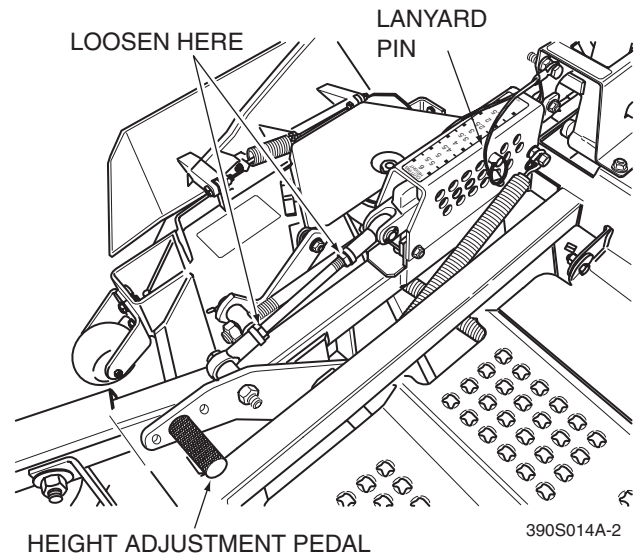
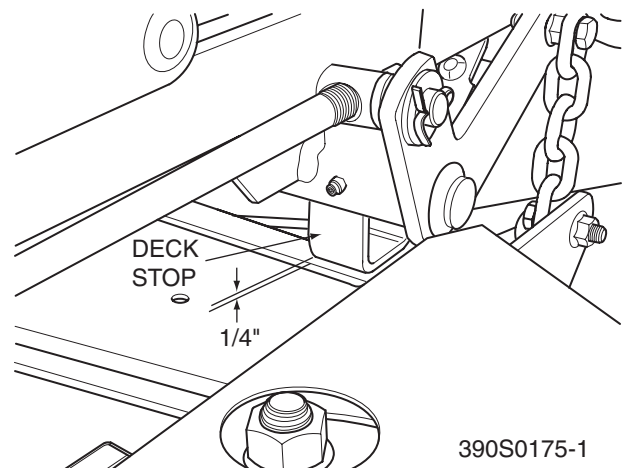

Figure 6-7. Cutter Deck Height Adjustment
Figure 6-8. Cutter Deck Stop
- Place the cutter deck in the transport position. Loosen the jam nuts on both ends of the deck height control rod. (See Figure 6.7)
- Turn the control rod (See Figure 6.7) until there is a 1/4" space between the rear deck stop and the top of the cutter deck. (See Figure 6.8). Tighten the jam nuts on the control rod.
- Check the measurement from the floor to the cutter blade tip. If the measurement is not at 3", an adjustment can be made using the deck height control rod. (See Figure 6.7)